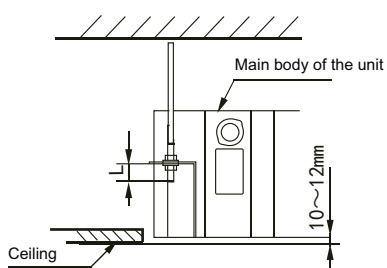

Fig. 4-10
- having adjusted the body's position well.(refer to Fig. 4-10)